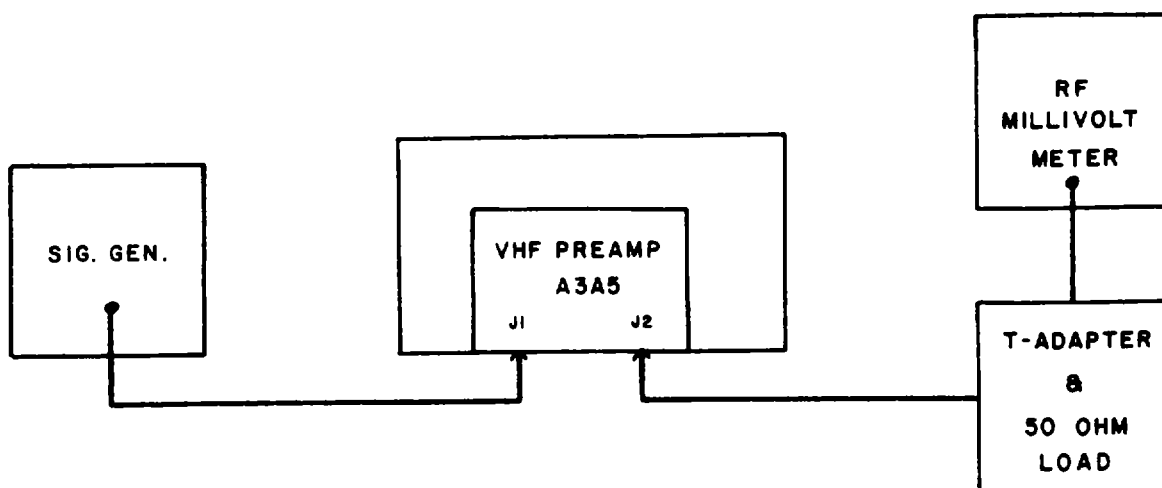

Figure 4-8. VHF Preamplifier Performance Test, Equipment Connections
3. Connect the test equipment as illustrated in **Figure 4-8**.